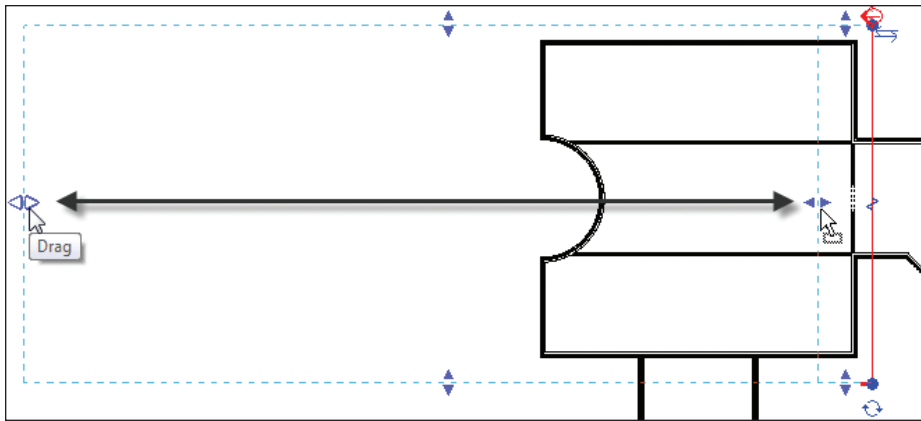

FIGURE 3.34 You can control how deep into the building you want the section to look.
With the section flipped in the correct direction, you will see a dashed line that forms a box around part of the model, as shown in Figure 3.34. This forms the view extents of the section. Anything outside of this box will not be shown.
7. The vertical dashed line (to the left) will have a move arrow. Pick the move arrow and drag the crop region into an area as shown in Figure 3.34.